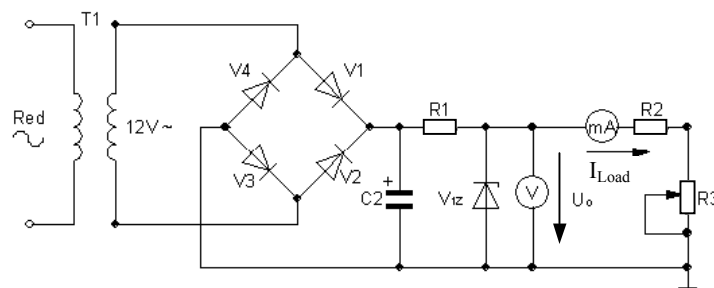

Fig. 5.4
- read the value of the input current and verify that this one remains constant with the load variation (define the measured quantity in the circuit diagram Fig. 5.4);
- adjust the voltage +V for all the values written in Tab.5.2. and for every value of the input voltage survey the corresponding value of the output voltage (define the quantity +V in the circuit diagram Fig. 5.4);